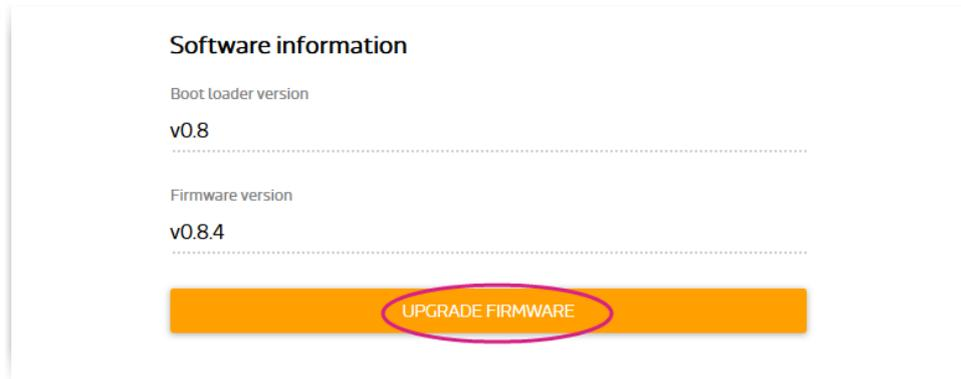

Figure 24 Firmware upgrade button
- 2) After you've signed in, click on the **UPGRADE FIRMWARE** as shown in Figure 24.